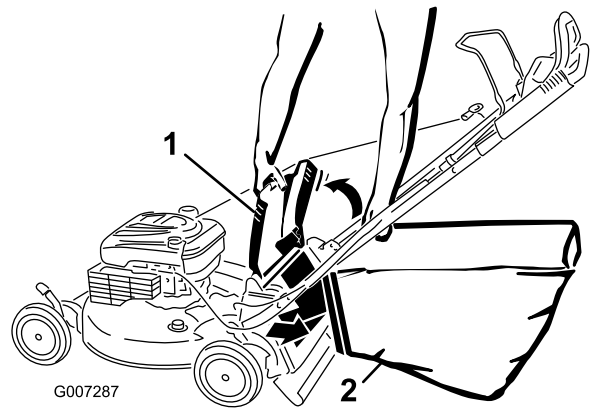

**Figure 24**
2. Raise and hold up the rear door (Figure 24).
3. Pull out the rear plug (Figure 24).